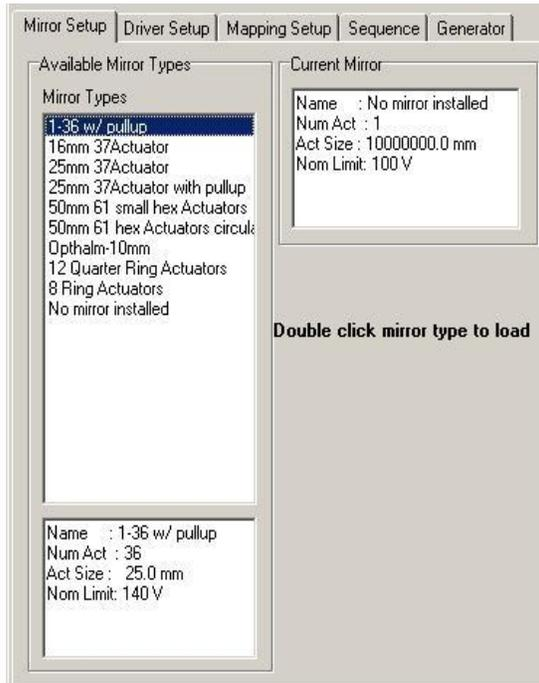

Figure 7: Mirror Setup Tab
- 2) The **Mirror Setup** tab will be active when the software starts. Double-click on a pad array design or actuator layout from the list displayed in the Mirror Types box (See Figure 7).